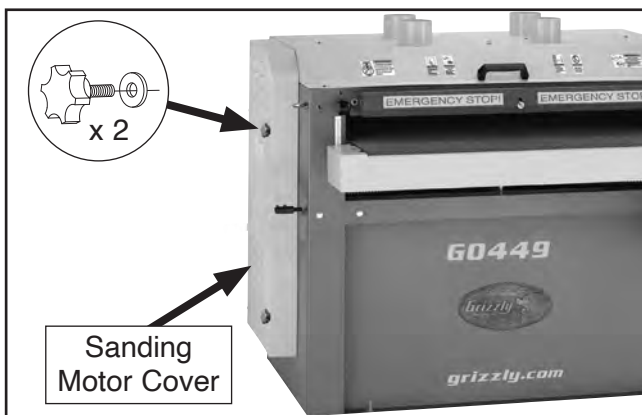

Figure 15. Location of sanding motor cover and knob bolts.
4. Remove (2) knob bolts and flat washers, then open sanding motor cover, shown in **Figure 15**.